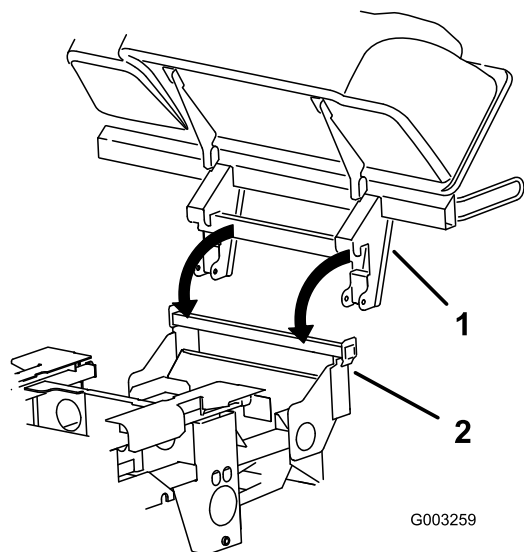

Figure 7
1. Install the hood assembly onto the bagger mounting bracket (Figure 7).